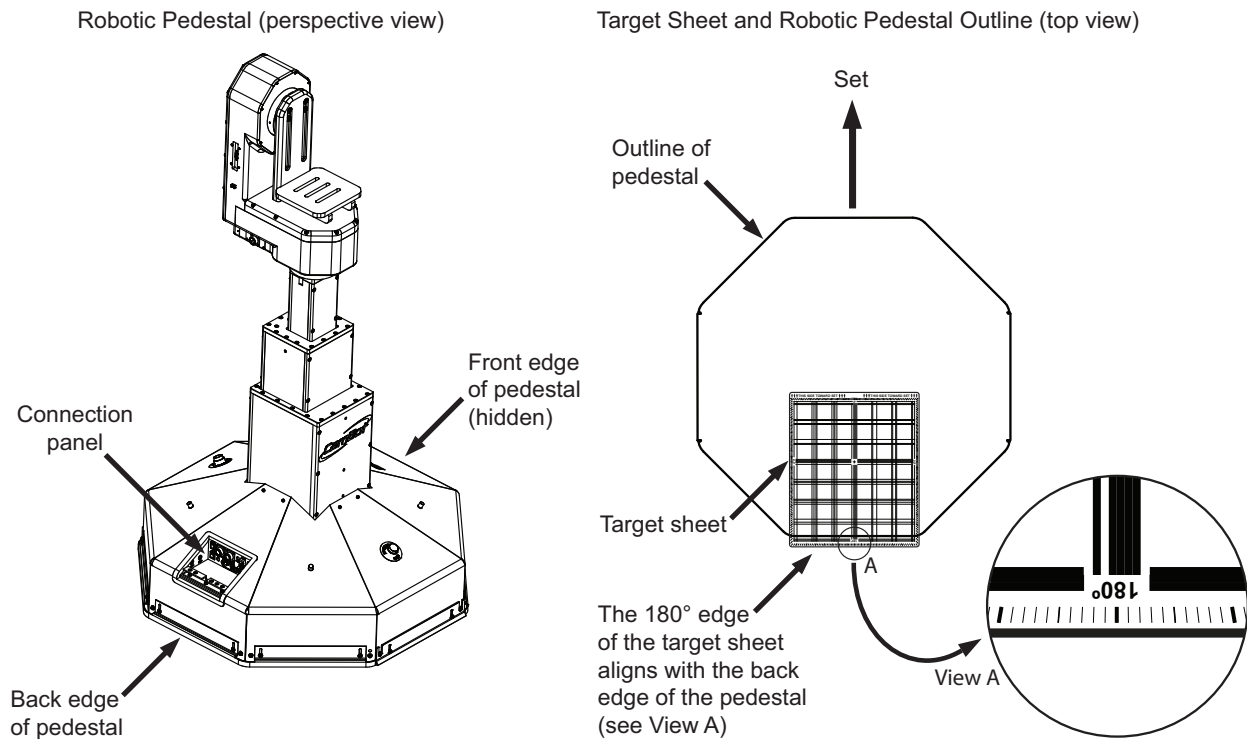

Figure 108 - Positioning a Robotic Pedestal Over the Target Sheet
- Use the joystick panel to position the pedestal over the target sheet such that the back edge of the pedestal (connection panel) is aligned with the **180°** edge of the target sheet (Figure 108).
- Use the local control box to position the pedestal over the target sheet such that the back edge of the pedestal is aligned with the **180°** edge of the target sheet (Figure 108). Ensure the control switch is set to **REMOTE** before you continue.